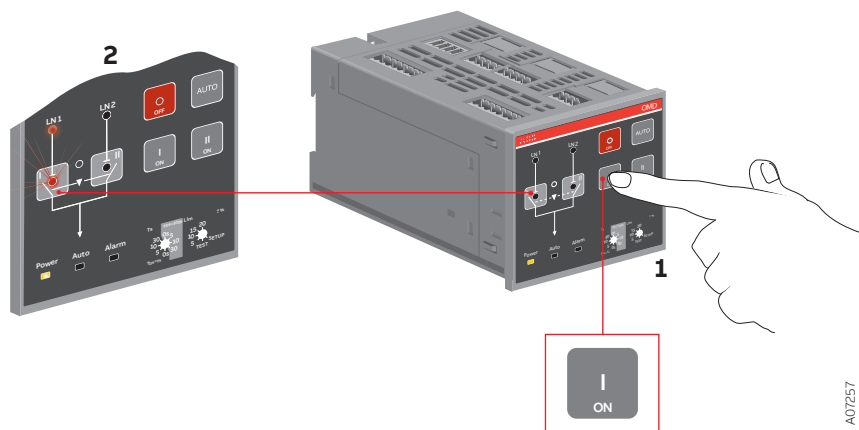

Figure 6.2 Selecting the switch to operate, the switch status and the chosen line indication with LEDs in OMD100
- b. When pushing the I-key (see the Figure 6.2/①, the I-switch will be in the ON position (the status and the line indication, see the Figure 6.2/② and the II-switch will be in the OFF position. If the I-switch is already in the ON position, pushing the I-key does not have any influence.